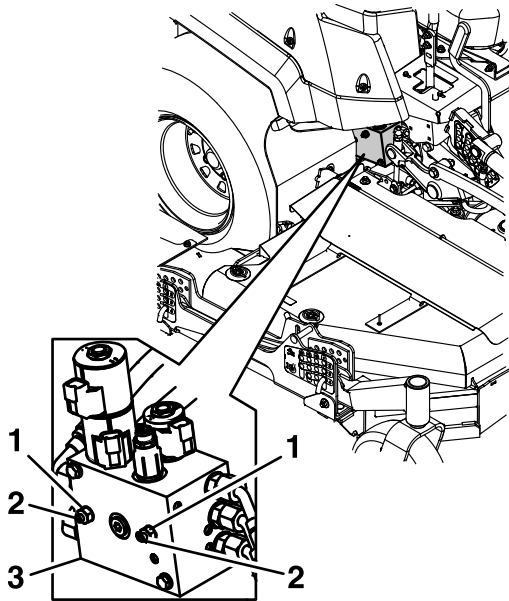

Figure 13
1. Hold set screws with 1/8 inch allen wrench, loosen sealing nuts with 1/2 inch wrench until nut is flush with the lifting end of the set screw (approximately six turns)—reference Figure 13.
2. Hold set screws with 1/8 inch allen wrench, loosen sealing nut with 1/2 inch wrench (reference Figure 13).